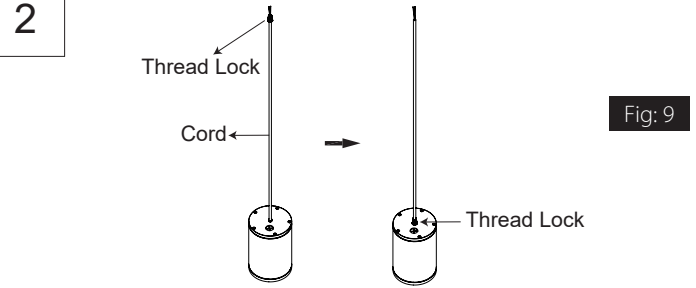

Fig: 9
2. Pass Thread Lock through the Cord and tighten it securely. (Fig. 9)